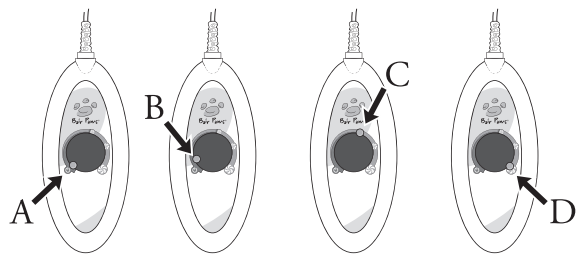

Figure 6: Important knob positions for the temperature controller.
1. Turn the warming unit ON and select the maximum airflow and temperature by turning the temperature controller completely clockwise (refer to position D in Figure 6).
2. Turn the warming unit ON and select the maximum airflow and temperature setting by turning the controller knob completely clockwise (refer to position D in Figure 6).
7. Turn the temperature controller to the OFF position to reset the alarm (position A, Figure 6). Wait ten seconds.
8. Turn the temperature controller to position B (Figure 6). After waiting several minutes, the thermocouple temperature should approach the ambient temperature.